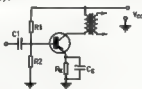

FIG. 6.
2. The input transformer  $T_1$  is a different kettle of fish. In some cases it is not necessary to have one and a capacitor input can be provided (see Fig. 6).
3. The arrangement in Fig. 6 is suitable for transistors delivering up to 300 mW. output. If more than this is desired from a single ended output stage a transformer input must be used as in Fig. 1.